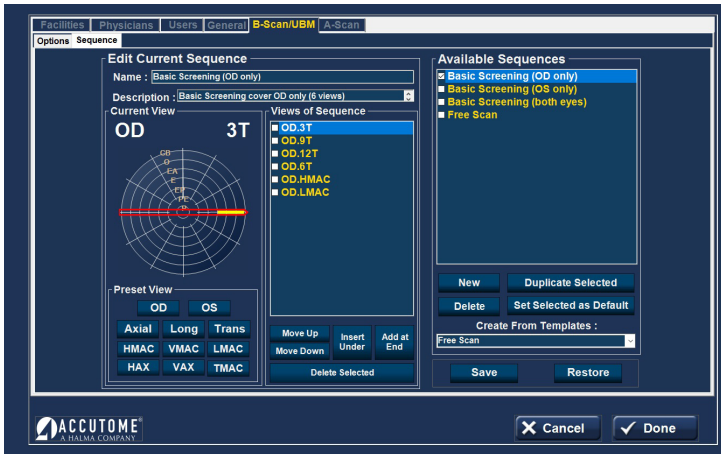

Figure 7.3 - Setup: B-Scan/UBM – Sequence Tab
- Select the first view, or scan, of the new sequence by either clicking in the checkbox (to the left of the view name) or by double-clicking on the scan title (e.g., OD.Scan) in the "Views of Sequence" box as shown in figure 7.3.